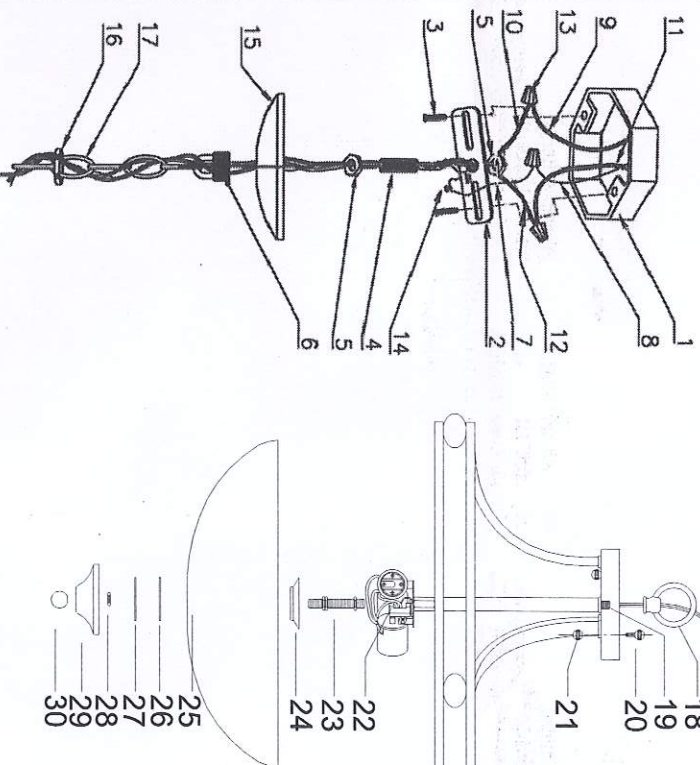

FIG. 1
1. Take the parts out of the mounting package. Screw the end of the NIPPLE (4) into the center hole of the MOUNTING BRACKET (2) and thread both 1/8" IPS HEX NUTS (5) several turns onto each end of the NIPPLE(4) but do not tighten the 1/8" IPS HEX NUTS (5). Pull the SUPPLY WIRES (9 & 11) and the SUPPLY GROUND WIRE (8) out from the OUTLET BOX (1) and attach the MOUNTING BRACKET (2) assembly to the OUTLET BOX (1) using the slotted holes of the MOUNTING BRACKET (2) and the MOUNTING SCREWS (3) provided. (See Fig. 1)
2. Thread the SCREW COLLAR LOOP (6) onto the bottom end of the NIPPLE (4). Place the CANOPY (15) over the OUTLET BOX (1) and adjust the SCREW COLLAR LOOP (6) and NIPPLE (4) until the midpoint of the outside threads on the SCREW COLLAR LOOP (6) is centered (aligned) with the surface of the CANOPY (15). Remove the CANOPY (15) and tighten both 1/8" IPS HEX NUTS (5) down on the MOUNTING BRACKET (2) and the SCREW COLLAR LOOP (6). (See Fig. 1)
3. Place the NUT SCREW(20) through the hole at the top front, fix with the BALL NUT(21). Thread the FIXTURE LOOP(18) onto the NIPPLE(19) till tight.
4. Open up the end links of the CHAIN (17) and attach one end of the CHAIN (17) onto the FIXTURE LOOP (18). Slide the THREADED RING (16) and the CANOPY (15) onto the CHAIN (17) (in that order) and attach the other end of the CHAIN (17) to the SCREW COLLAR LOOP (6). Close the ends of the chain links. (See Fig. 1 and 2)
5. Unravel the fixture lead wires(10 and 12) and FIXTURE GROUND WIRE (7) and thread them through every other link of the CHAIN (17) starting with the chain link attached to the FIXTURE LOOP (18). Feed the fixture lead wires(10 and 12) and FIXTURE GROUND WIRE (7) through the SCREW COLLAR LOOP (6) and NIPPLE (4) assembly. Pull the fixture lead wire(10 and 12) and the FIXTURE GROUND WIRE (7) upward to remove any excess slack. (See Fig. 1)
6. Attach the power supply wires to the fixture lead wires by connecting the BLACK SUPPLY WIRE (9) to the SMOOTH FIXTURE LEAD WIRE (10) and the WHITE SUPPLY WIRE (11) to the RIBBED FIXTURE LEAD WIRE (12). Loop the FIXTURE GROUND WIRE (7) around the GROUND SCREW (14) of the MOUNTING BRACKET (2). (Note: Be sure to provide an extra 3" length of the GROUND WIRE(7)). Connect the remaining FIXTURE GROUND WIRE (7) to the SUPPLY GROUND WIRE (8) using a WIRE CONNECTOR (13). Place wiring and connections inside the OUTLET BOX (1). (See Fig. 1)
7. Slide the CANOPY (15) and the THREADED RING(16) up the CHAIN(17). Place the CANOPY (15) over the OUTLET BOX (1) and secure it in place by screwing the THREADED RING (16) onto the SCREW COLLAR LOOP (6). (See Fig. 1)
8. Thread the NIPPLE(23) onto the CLUSTER ASSEMBLY(22), secure with the hex nut. Slide the PLATE(24), GLASS SHADE(25), RUBBER WASHER(26), GASKET(27) over the NIPPLE(23) in place, secure with the HEX NUT(28). Slide the BOTTOM FONT(29) over the NIPPLE(23), fix with the FINIAL(30).